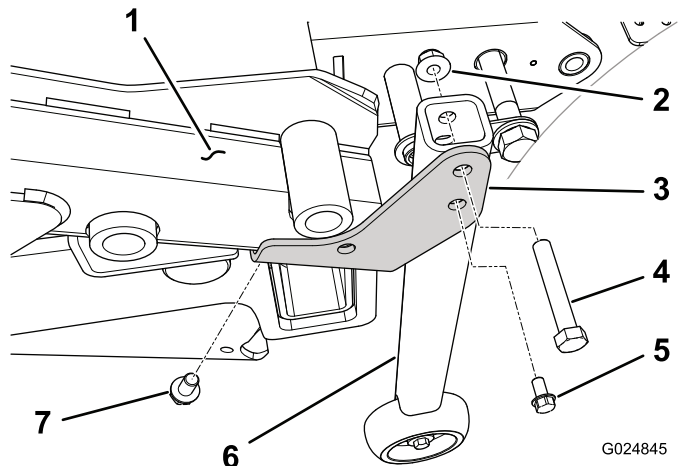

Figure 48
the appropriate rear corner of the deck frame with a self-tapping screw (3/8 x 5/8 inch) (Figure 48).
4. Install the roller assembly to each conversion bracket with a bolt (3/8 x 2-1/4 inches) and flange nut (Figure 48).